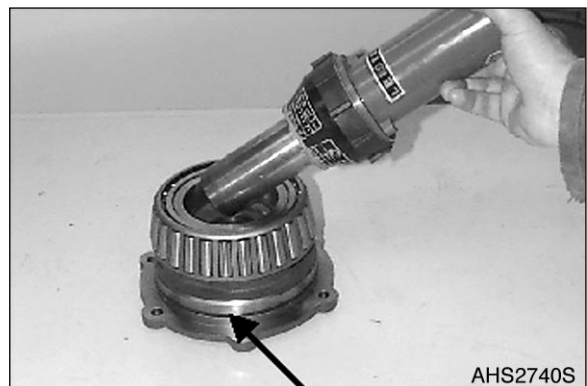

Figure 326
22. Install and grease O-ring (Figure 326).